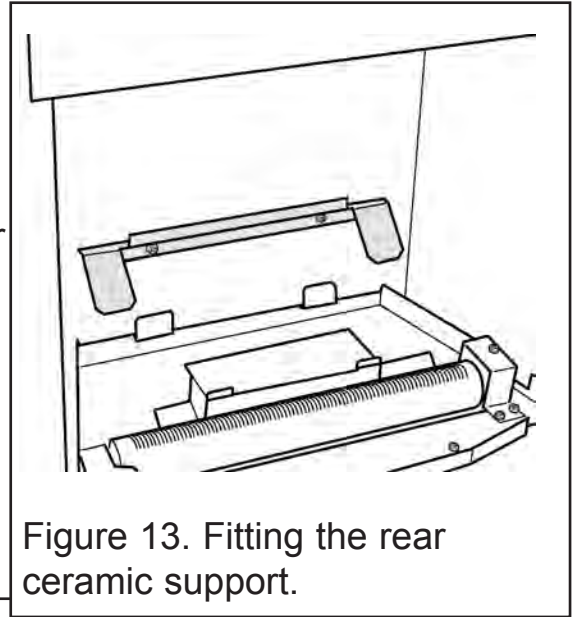

Figure 13. Fitting the rear ceramic support.
7. This appliance is supplied with a rear ceramic support bracket. Fit this using two screws supplied (See figure 13).